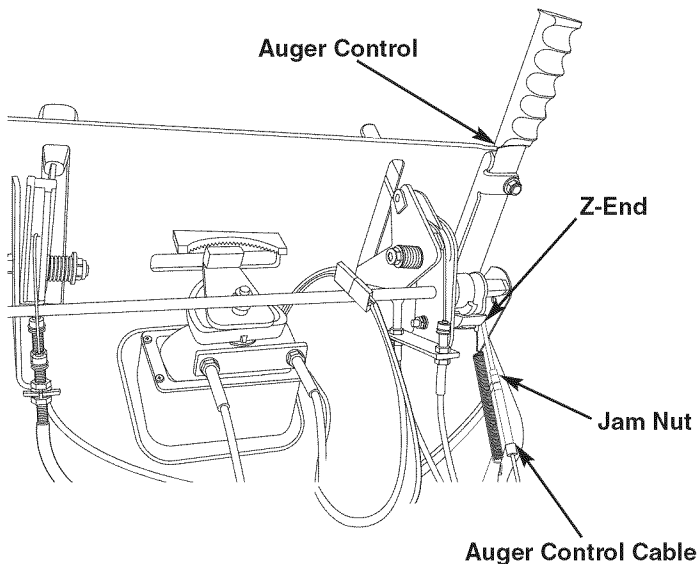

Figure 11
3. Retighten the hex jam nut. (see Fig. 11)
4. With the drive control engaged, the friction wheel must contact the drive plate. (see Fig. 11)